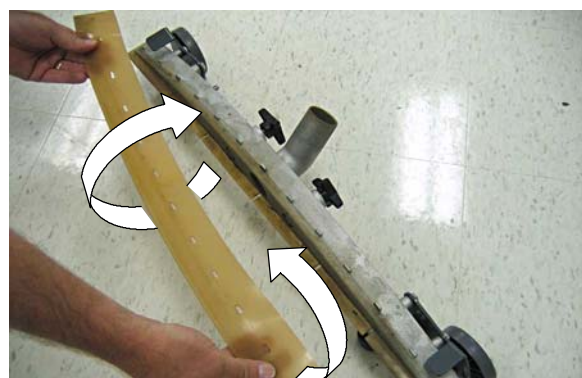

FIG. 47
3. Remove and rotate the rear blade to a new wiping edge. (Figure 47).